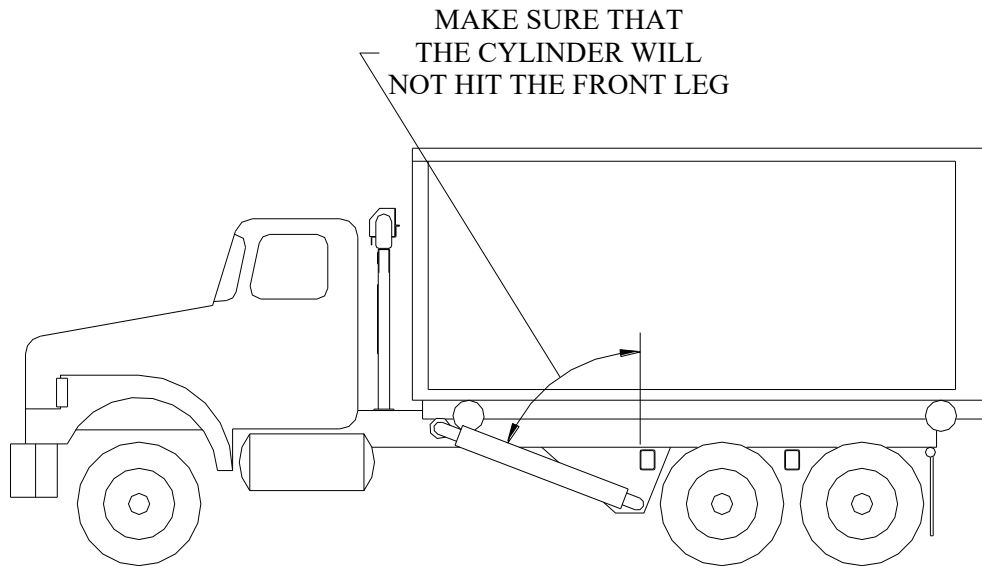

Figure 4
- 4) To double-check that the front legs will not interfere with the tilt cylinders, you will need to raise the tilt bed to the maximum tilt. The front legs need to be behind the cylinders at this point. (Refer to **Fig. 4**)